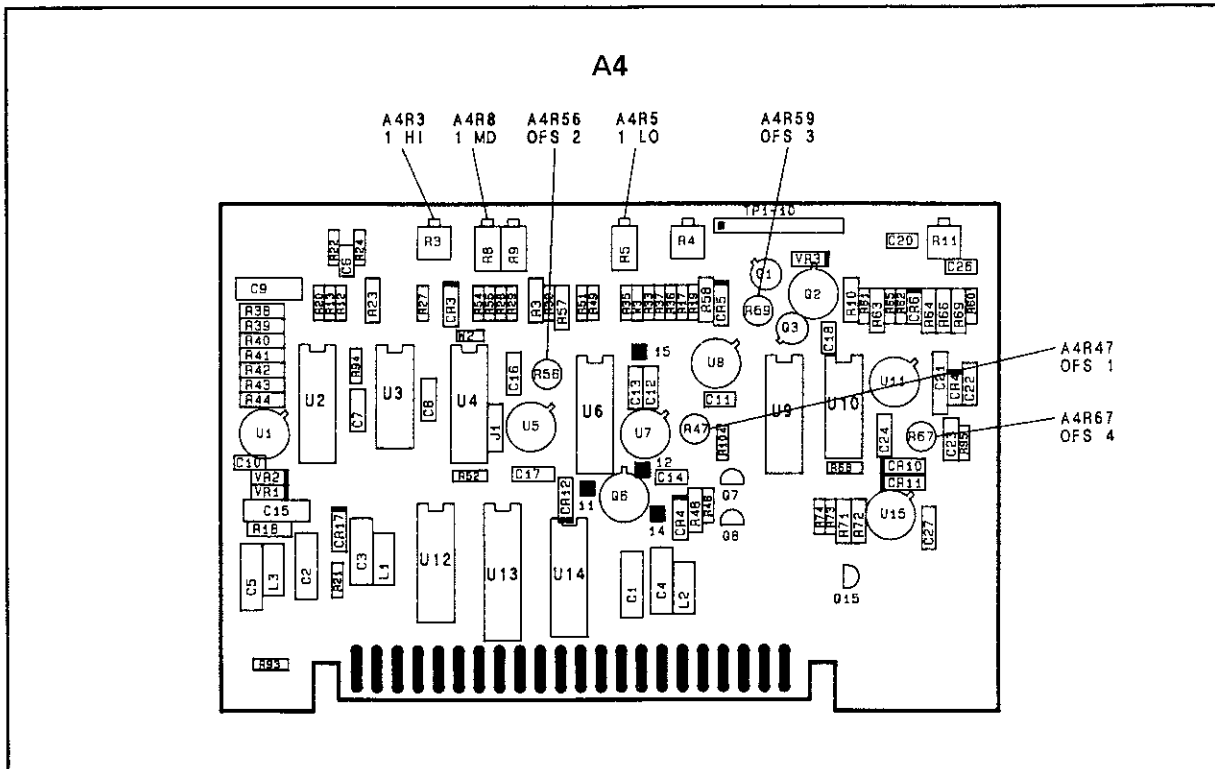

Figure 5-17. A4 ALC Board Adjustment Locations
2. Set the HP 83572A/B output power for a front panel indication of -5 dBm. Adjust "1 LO" (A4R5) (see Figure 5-17) for a power meter reading of -10 dBm ± 0.1 dB (this corresponds to -5 dBm at the output of the directional coupler).